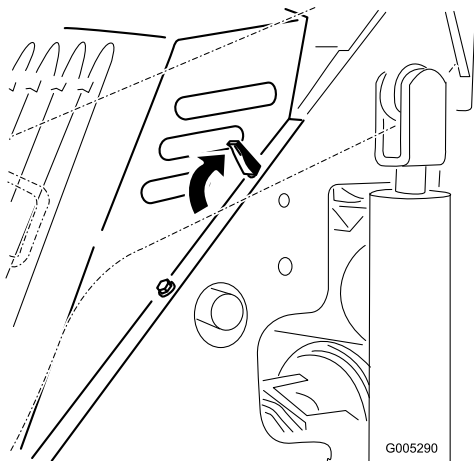

Figure 17
3. Release the four locking tabs (Figure 17, top, left tab illustrated).
1. Position the hood over the traction unit frame with the posts on the hood fitting into the holes in the frame (Figure 17).
2. Secure the hood by pushing the locking tabs forward and down (Figure 17)